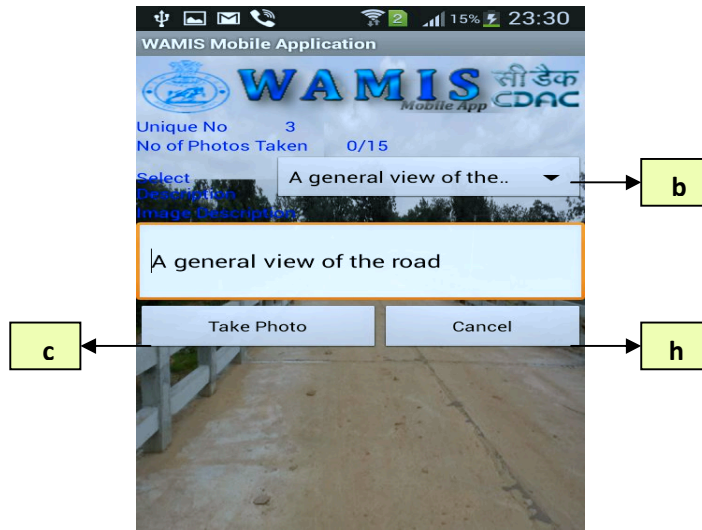

Fig 1.4.1.3
- b. To choose appropriate description from the dropdown list already provided, it will appear in the “Image Description “ text box. If you want to edit and update it, click on “Image Description” text box it will provide you keypad to type and edit the description. Fig 1.4.1.3